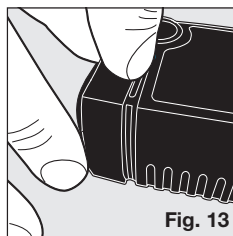

Fig. 13
- Remove the faceplate by using your thumb and forefinger to gently squeeze on both sides of the faceplate and pull off. It may be necessary to insert a fingernail into the seam of the faceplate to pry it off (Fig. 13).